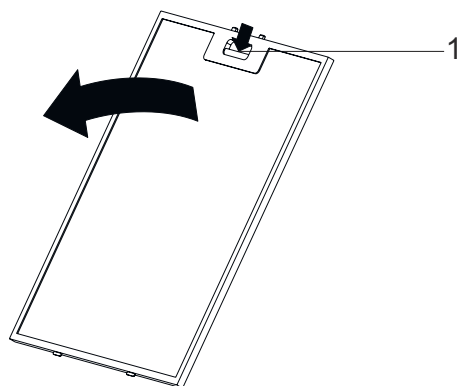

Fig. 7
- Press the aluminium filter tab (1) and pull the aluminium filter to the direction of the arrow (Fig. 7).